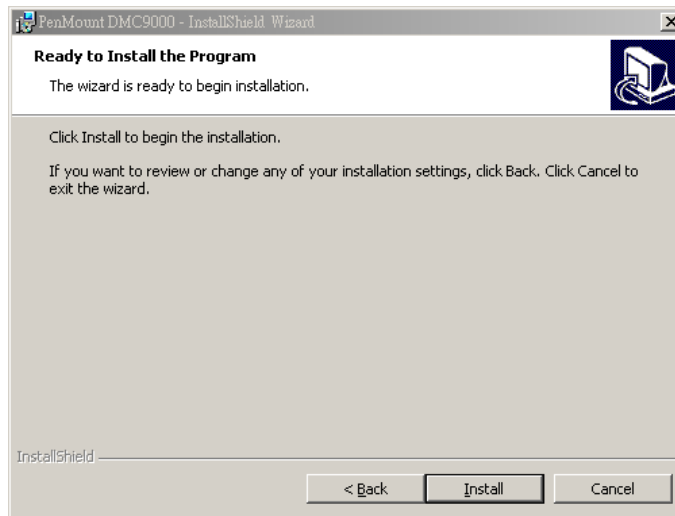

Figure C-4: Ready to Install the Program
Step 6: Click **NEXT** and the Installshield Wizard is ready to install the program (**Figure C-4**).